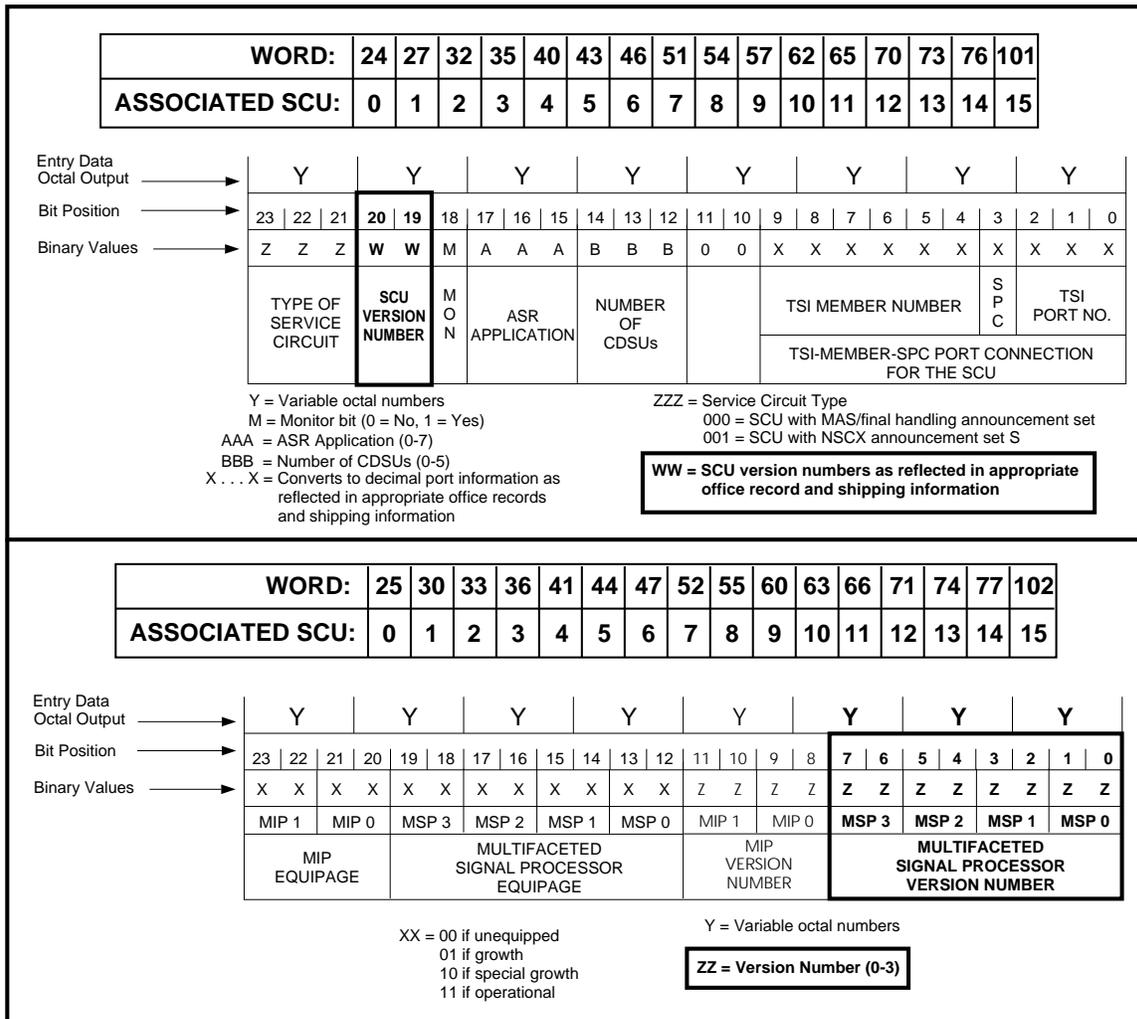

Figure 1. Words in SCS Unit Type Translator Used to Determine SCU and MSP Version Numbers
The above responses are followed by a complete printout of the SCS unit type entry data. Use this printout and Figure 1 to determine if the SCU data (SCU and MSP version numbers) was properly entered.
Response: The information shown in Figure 1 is displayed and printed.
**Note:** The words shown in Figure 1 are in **octal** format.